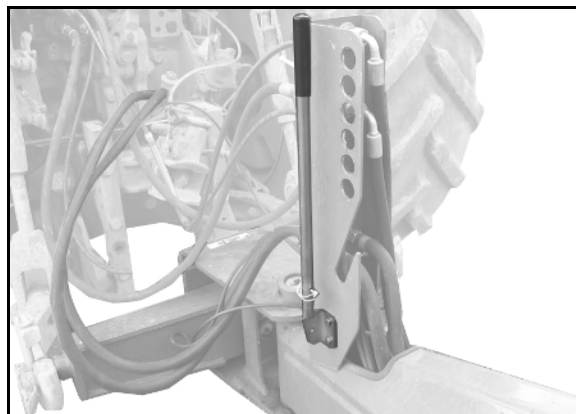

Fig. 58
1. Move the hand lever from parking position (Fig. 58).